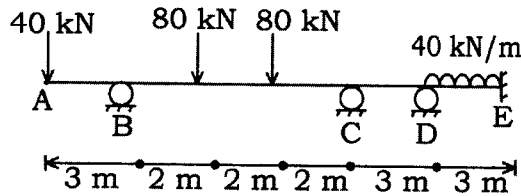

Fig. 4.1 (b)
- (b) A continuous beam ABCDE has lengths $AB=3$ m, $BC=6$ m, $CD=3$ m and $DE=3$ m. The beam carries three downward point loads and one UDL as shown in Fig. 4.1 (b). The portion AB is overhanged. Supports at B, C, D are roller supports and support of E is hinged. For entire beam EI is constant. Determine support moments for this continuous beam by moment distribution method. (15)
- (c) A fixed beam ABC is clamped at A & C. Flexure rigidity of AB and BC parts are EI and 2EI respectively. The length of parts $AB=3$ m and $BC=3$ m. The entire beam is loaded with uniformly distributed load of 40 kN/m as shown in Fig. 4.1 (c). (10)